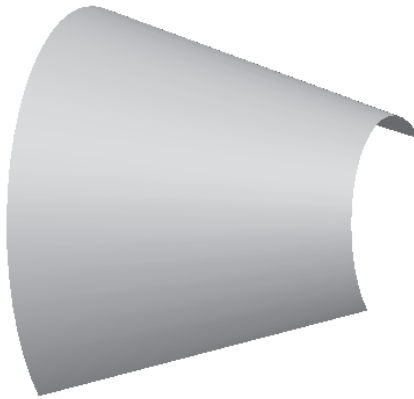

Figure 14-73 Trimetric view of the base feature
13. Choose **OK** from the **SURFACE** dialog box; the base feature is created, as shown in Figure 14-73.